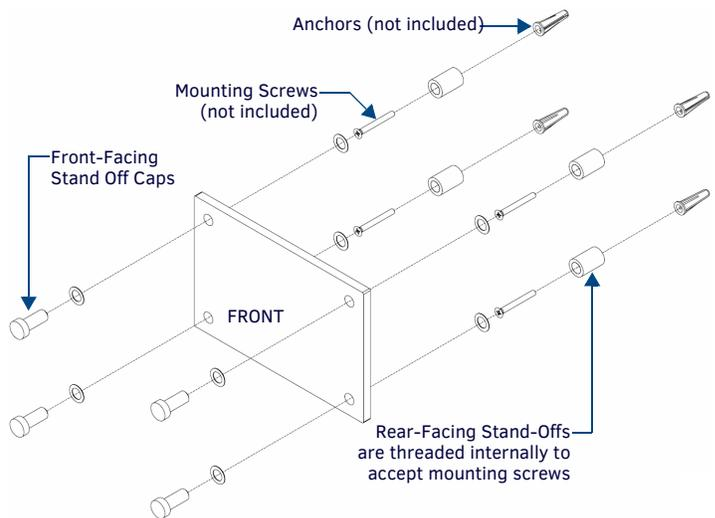

FIG. 3 INSTALLING THE RMS-ENT-QR
- Mount the RMS-ENT-QR using the provided stand-offs and washers as shown in FIG. 3: